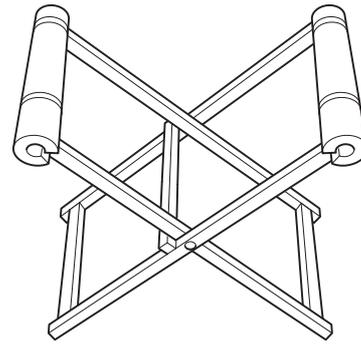

Fig 7. Glass Stand
- 2 After checking for size, remove the new glass and place it on a purpose made glass stand. → Fig 7. (B-4).